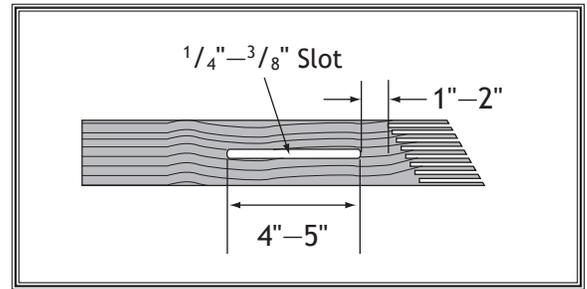

Figure 83. Slot routed in featherboard.
4. Rout a $\frac{1}{4}$ "- $\frac{3}{8}$ " wide slot 4"-5" long in workpiece and 1"-2" from short end of featherboard (see **Figure 83**).